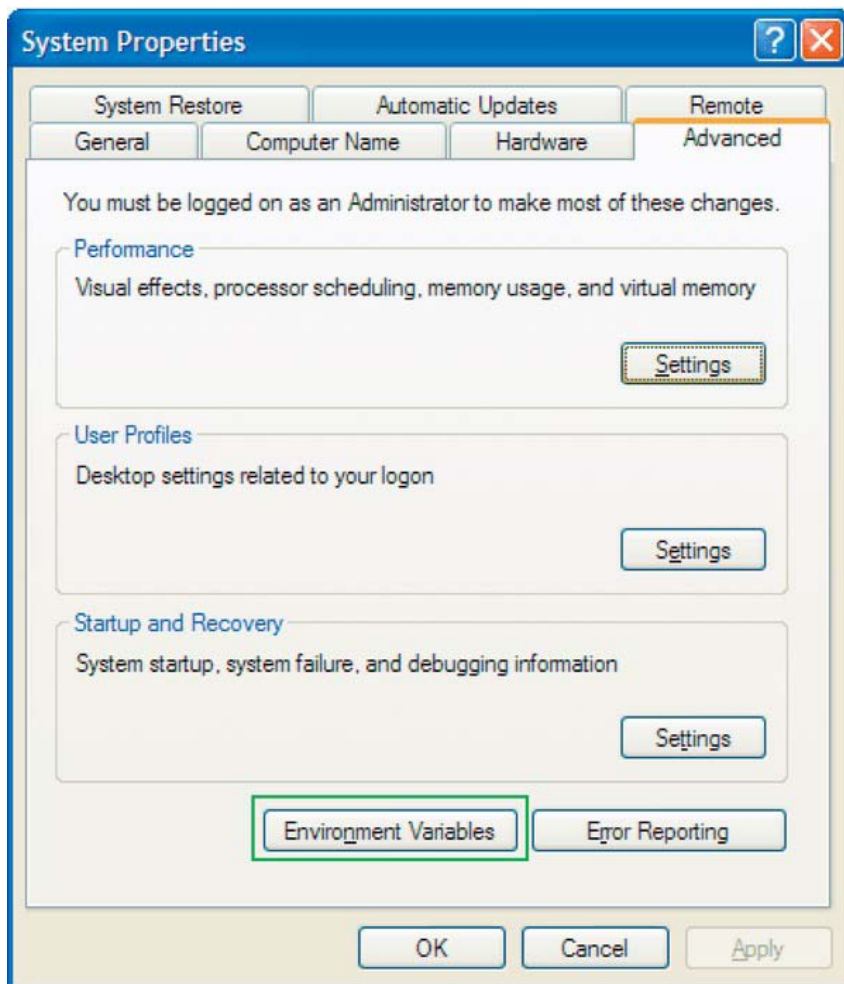

Figure 1-9. Open Environment Variables dialog
2. On the system Properties dialog select the Advanced tab. Near the bottom you should see the Environment Variables button (Figure 1-9), which opens the variables dialog to set User and System variables.